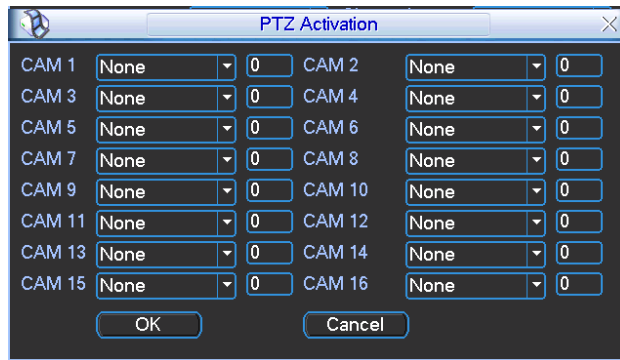

Figure 5-52
- PTZ activation: Here you can set PTZ movement when an alarm occurs. System can go to a preset, when there is an alarm. Click “select” button, you can see an interface is shown as in Figure 5-52.